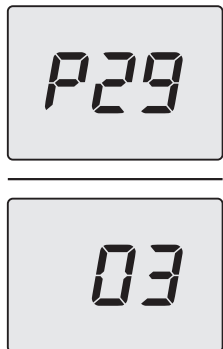

Figure 5.44
- Scroll through the various parameters by pressing the keys 12 (back) or 14 (forward), until **P29**, which alternates with the parameter value, appears on the LCD display (Figure 5.44).